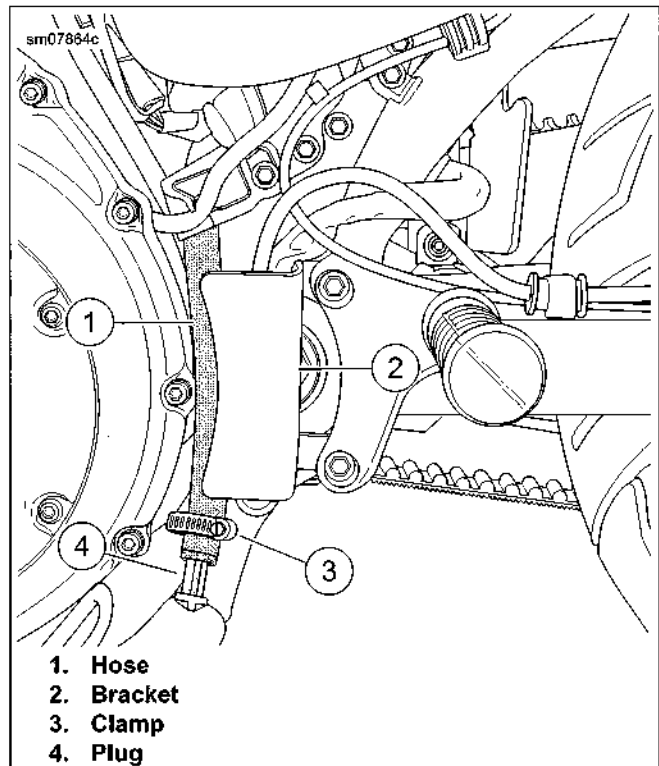

Figure 1-5. Direct Drain Hose to Drain Pan
5. See Figure 1-5. Direct hose (1) in front of the brake line bracket (2) into drain pan.
6. Loosen worm drive clamp (3). Pull drain plug (4) from end of drain hose.